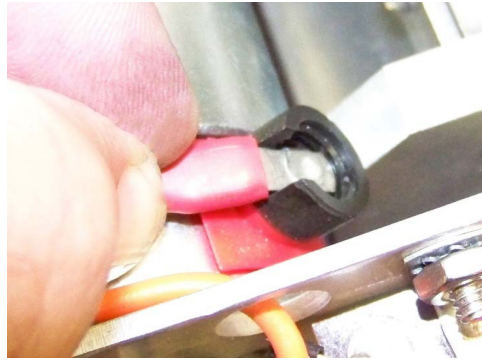

Figure 9-30 Connector connected to the brush
12. Connect the bottom black wire to the new brush and insert the new brush into the motor using the connector as leverage to guide brush into the motor. Hold the connector so the brush is fully engaged into the motor (Figure 9-30) then reinstall the set screw that holds brush in place. Repeat this process for the top black wire.